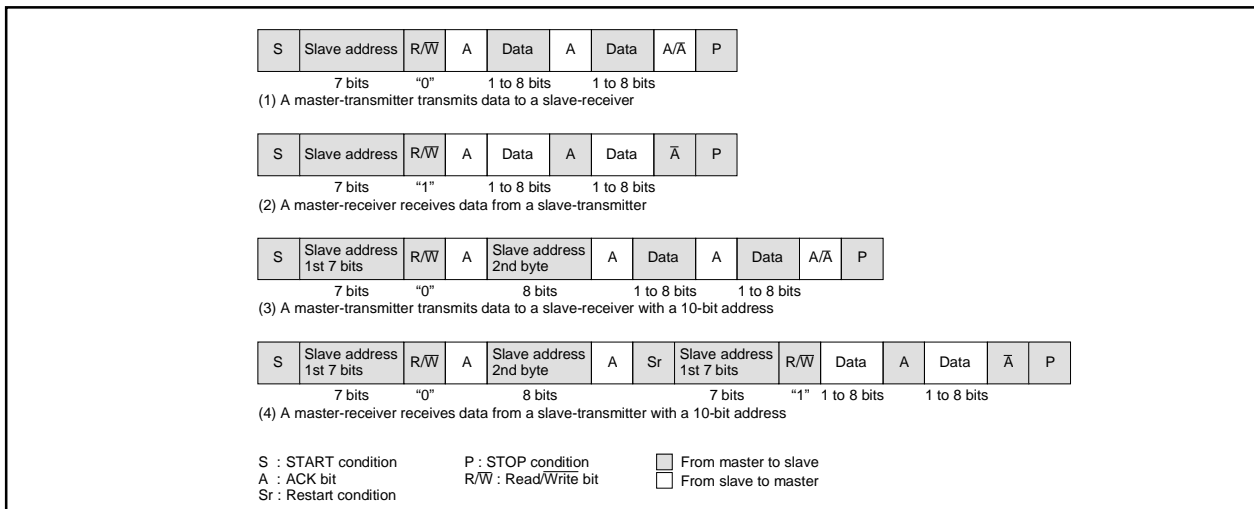

Fig. 2.11.45 Address data communication format
To meet the 7-bit addressing format, set the 10BIT SAD bit of the I²Ci control register to “0.” The first 7-bit address data transmitted from the master is compared with the high-order 7-bit slave address stored in the I²Ci address register. At the time of this comparison, address comparison of the RBW bit of the I²Ci address register is not made. For the data transmission format when the 7-bit addressing format is selected, refer to Figure 2.11.45, (1) and (2).
When the first-byte address data matches the slave address, the AAS bit of the I²Ci status register is set to “1.” After the second-byte address data is stored into the I²Ci data shift register, make an address comparison between the second-byte data and the slave address by software. When the address data of the 2nd bytes matches the slave address, set the RBW bit of the I²Ci address register to “1” by software. This processing can match the 7-bit slave address and R \bar{W} data, which are received after a RESTART condition is detected, with the value of the I²Ci address register. For the data transmission format when the 10-bit addressing format is selected, refer to Figure 2.11.45, (3) and (4).
(11) Example of Master Transmission